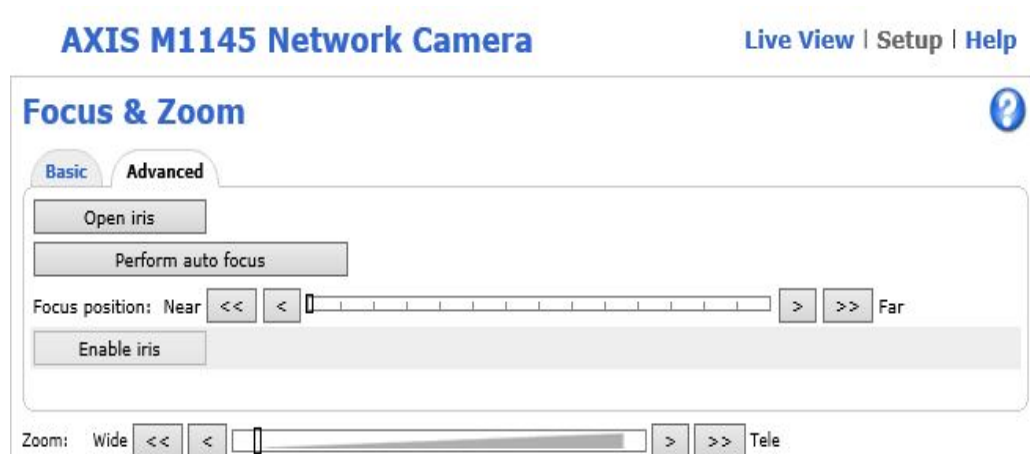

Figure 5.8 – Remote Zoom control of the RoughCam IPM1145-L
Parametrization measures at the lens of the RoughCam IPM1145-(L) are exclusively done via the Web Interface or the visualization software. Mechanical adjustments at the varifocal lens by the user are not possible. The camera models RoughCam IPM1145 and RoughCam IPM1145-L dispose of a so called „remote Zoom“ functionality (q.v. figure 5.8)